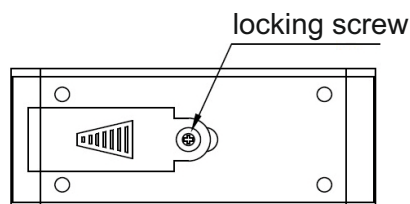

Fig. 1
- » Loosen the locking screw on the battery cover (Fig. 1).